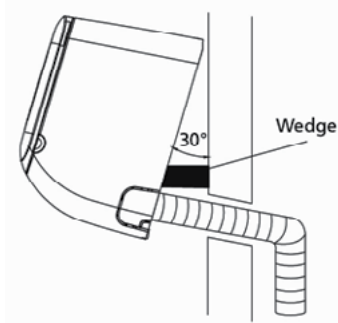

Fig. 3.13
- 2 Use a bracket or wedge to prop up the unit, giving you enough room to connect the refrigerant piping, signal cable, and drain hose. Refer to Fig. 3.13 for an example.